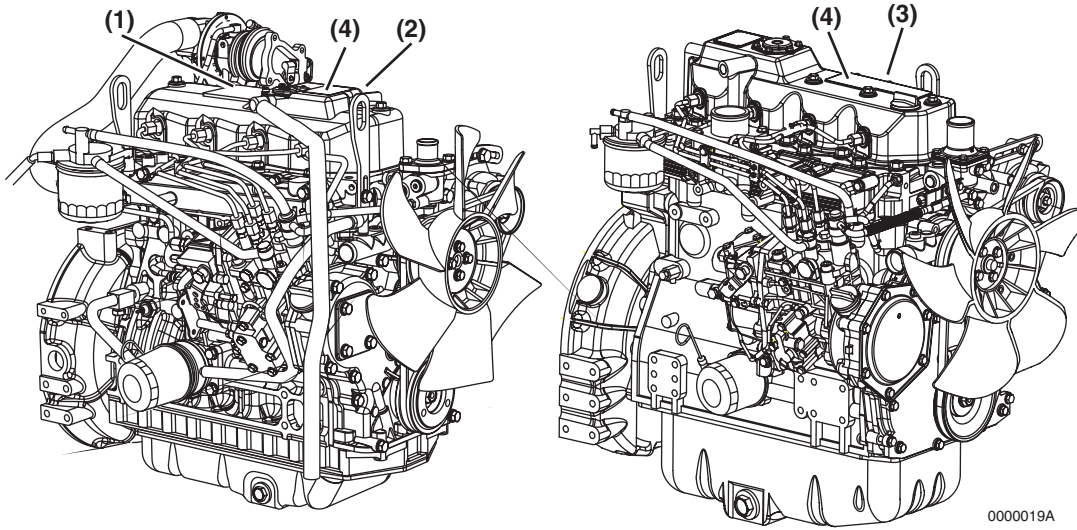

Figure 4-2
Figure 4-2 shows where the major engine components are located.
Figure 4-2 shows the location of regulatory and safety labels on Yanmar TNV series engines.
The typical location of the emission control information label is shown for 4TNV84, 4TNV84T and 4TNV88 engines (Figure 4-2, (1)).
The typical location of the emission control information label is affixed to the exhaust side of the rocker arm cover for 3TNV82A, 3TNV84, 3TNV84T and 3TNV88 engines (Figure 4-2, (2)).
The typical location of the emission control information label is affixed to the exhaust side of the rocker arm cover for 4TNV94L, 4TNV98, 4TNV98T, 4TNV106 and 4TNV106T engines (Figure 4-2, (3)).
The typical location of the engine nameplate is shown for various Yanmar TNV engines (Figure 4-2, (4)).